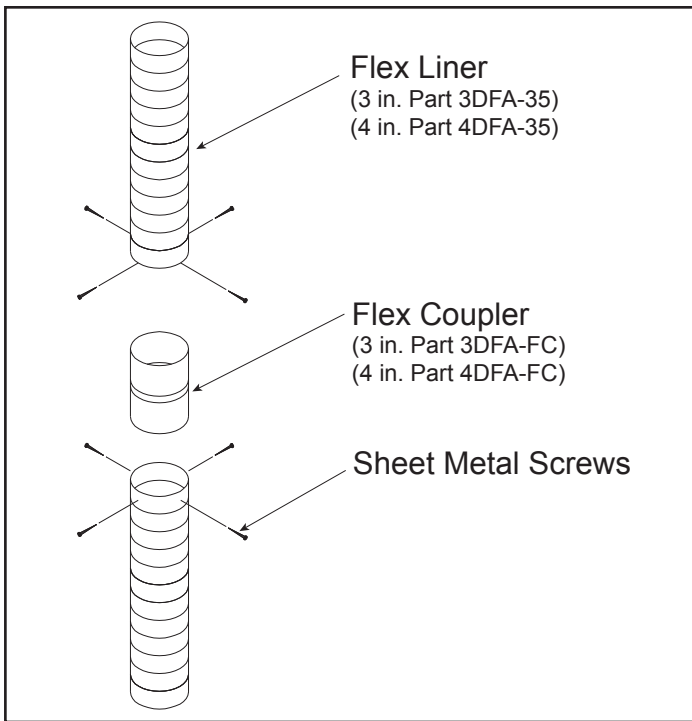

Figure 4.16
7. If additional lengths of flex liner are needed to span the chimney height, use a flex coupler to connect the pieces of flex liner together. Connect the flex to the coupler by using four sheet metal screws for each side. See Figure 4.16.